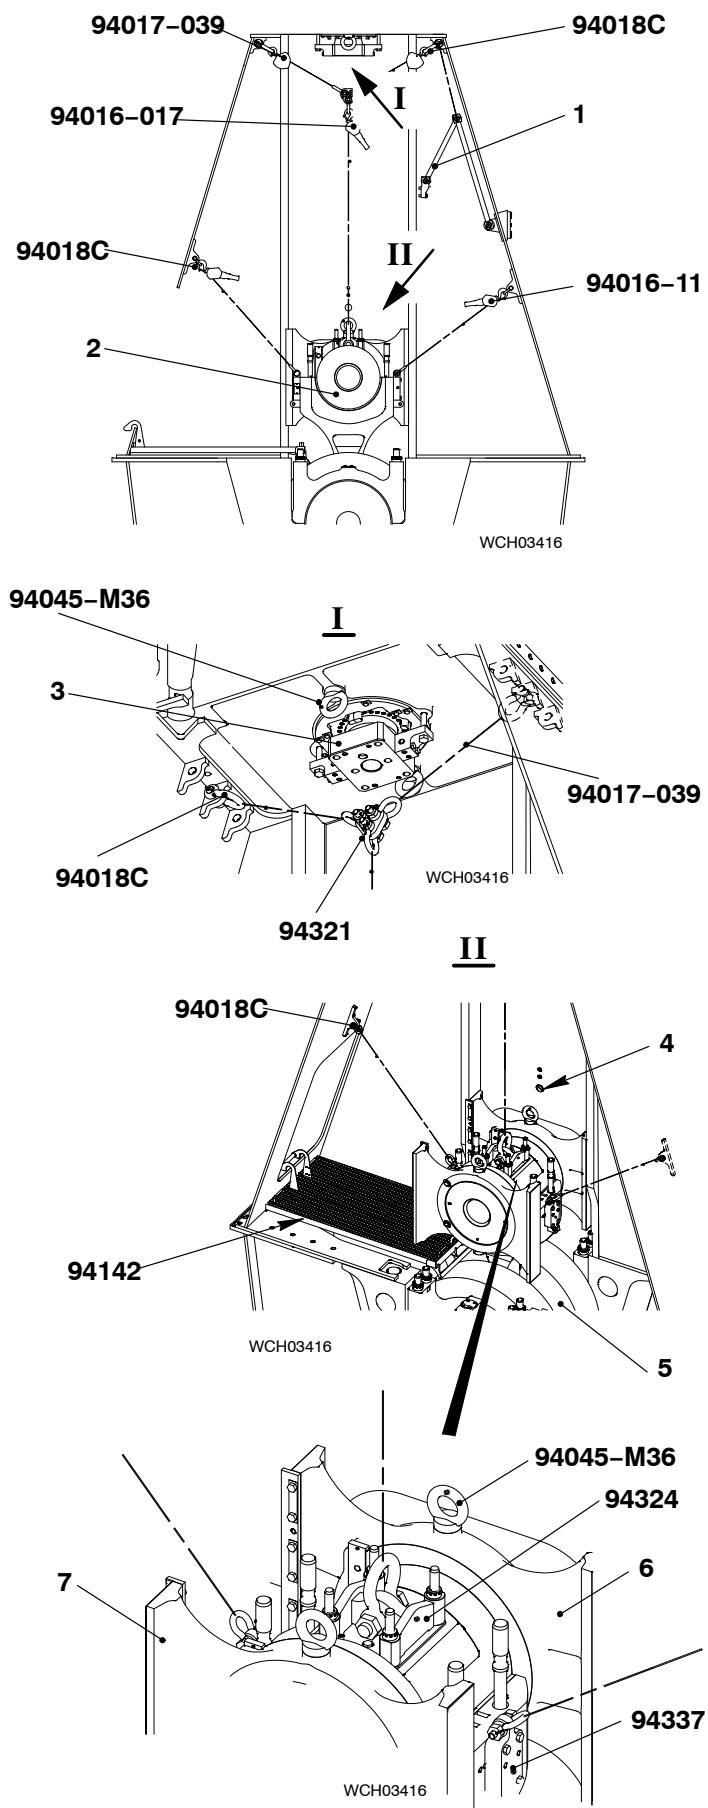
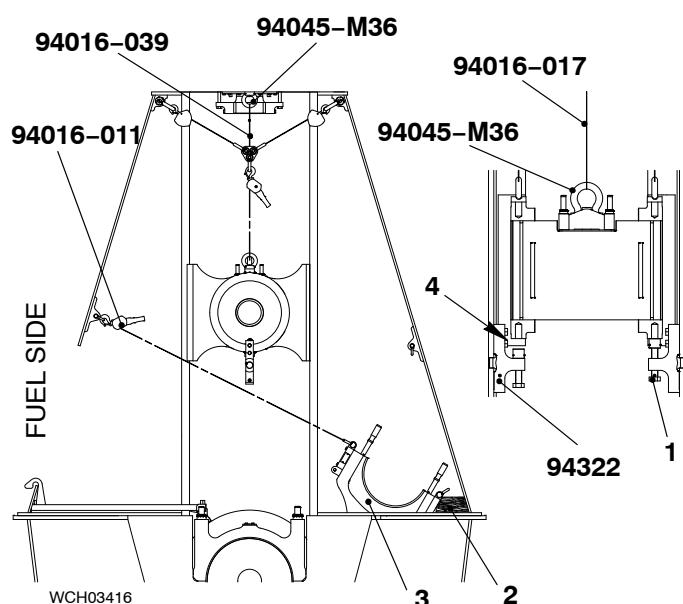

Fig. 1
Fig. 2
- 5) Disconnect the toggle lever (1, Fig. 1) from the crosshead pin (2). Let the toggle lever hang in the column.
- 1) Attach the lifting tool (94234) to the crosshead (see Fig. 1 View II).
- 7) Attach the two eye bolts (94045-M36) to the guide shoes (6) and (7).
- 8) Attach the two lifting tools (94337) to the connecting rod (5).
- 10) Operate the manual ratchet (94016-017) to lift the crosshead approximately 160 mm above the center of the pin hole (4, Fig. 1 view II and Fig 2).
- 12) Torque the four bolts (4) to 240 Nm.
- 13) Tighten the two set screws (1).
- 15) Put the wooden block (2) in position as shown.